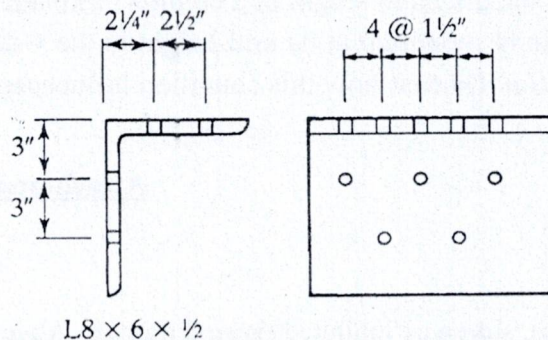

Fig. 2.1
- (b) For the Fig. 2.1, compute the design strength. Material type: A36 steel.